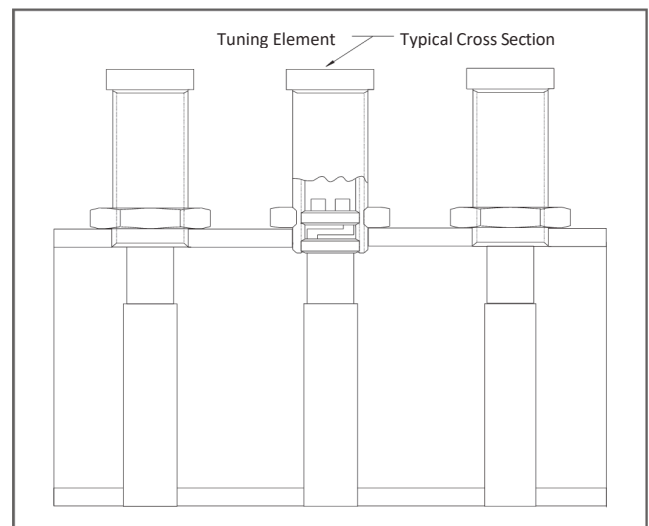

Figure 4. Coaxial Mounting
When rotated inward, the microwave tuning elements increase capacitive loading, lowering the resonant frequency and loaded Q. Although somewhat affected by intersection coupling, bandwidth is increased. This capacitive loading or electrical elongation of the resonant sections explains why broadband filters occupy less space than their narrow counterparts. Figure 4 shows a popular method of achieving maximum capacitance loading by coaxially mounting tuning elements near the inner diameter (ID) of the fixed rod section.